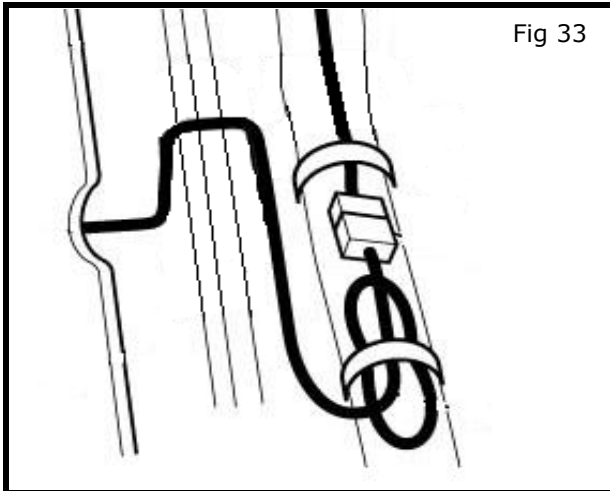

Fig 33
Shown in Figure 33
- 3) If you have excess lamp harness, loop the extra length to the vehicle harness with a tie wrap as shown in Figure 33